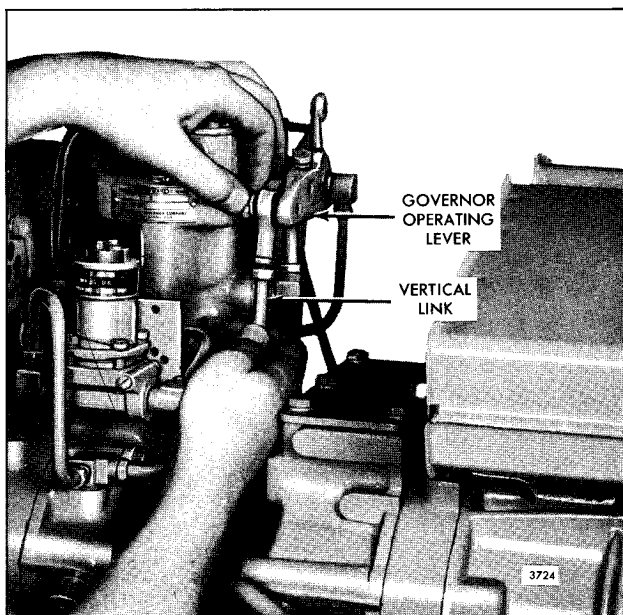

Fig. 6 - Adjusting Vertical Link
15. Adjust the length of the vertical link so that the bolt holes of the levers and the centers of the rod end bearings are lined up (Fig. 6).